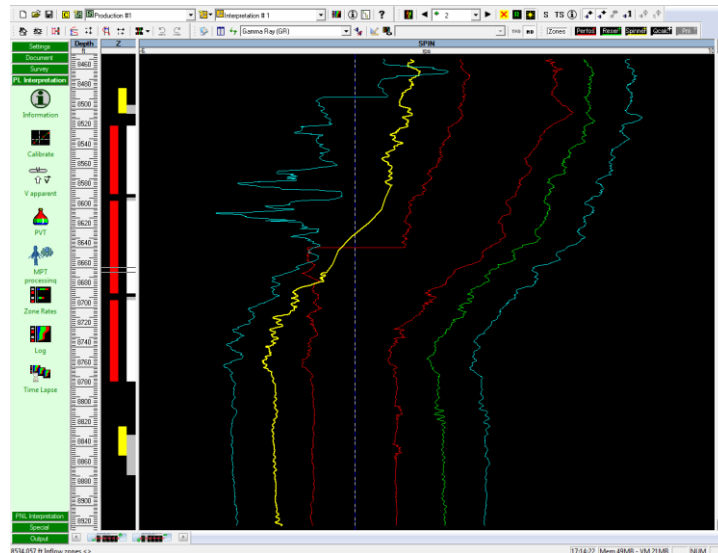

Fig. B02.30 • Interactive editing over
- Directly click on the curve to edit it, interpolate the values as indicated in Fig. B02.30.